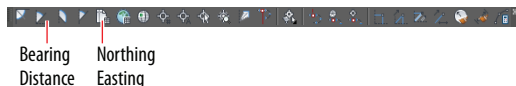

FIGURE 1.11 The Transparent Commands toolbar with red lines pointing to the Bearing Distance and Northing Easting transparent commands
For example, when drawing a line, you can use the Northing Easting transparent command to specify the first point and the Bearing Distance transparent command to specify the endpoint (see Figure 1.11).
-  4. When prompted to specify the next point, click Bearing Distance on the Transparent Commands toolbar. Refer to Figure 1.11 for the location of this command.
7. When prompted for the distance, type **500 (150)** and press Enter. Press Esc twice to exit the command. You have just drawn a line that is 500 feet (150 meters) long at a bearing of N 45° E.